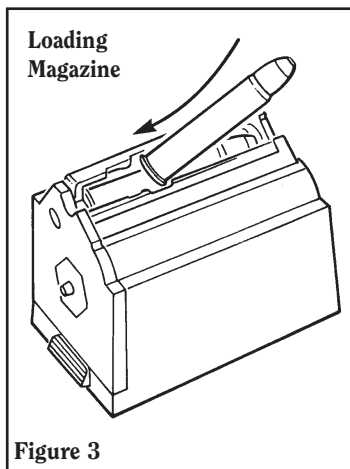

Figure 3
4. Load the magazine by sliding up to nine (9) .22 WMR cartridges into the magazine throat-opening. (See Figure 3, p. 11). The Ruger 10/22 Magnum is designed to function properly only with standard Ruger 9-shot rotary magazines loaded with .22 WMR magnum cartridges of the correct type. (See "Ammunition Warning", p. 10)